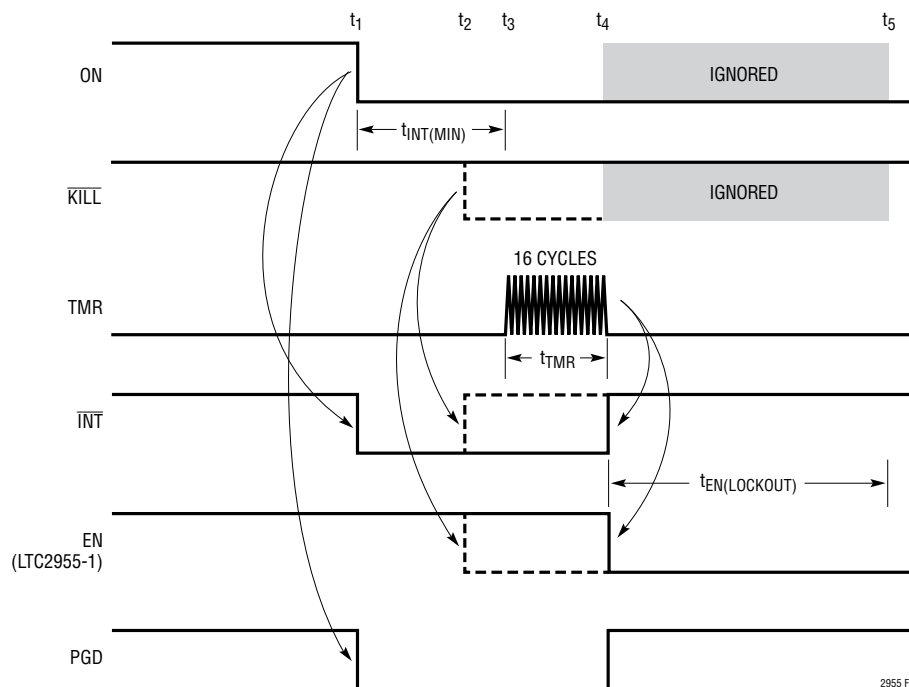

Figure 5. ON Pin Turn-Off Timing (DFN Only, $V_{SEL} > 1.2V$ and the Preceding Turn-On Sequence Was Initiated by the ON Pin Rising Edge)
Figure 5 shows the turn-off sequence of the LTC2955-1 initiated by the ON pin. The timing sequence is slightly different from that by the pushbutton as there is no debounce time ($t_{DB(OFF)}$) before the \overline{INT} pin pulls low. The ON pin falling edge can start the turn-off sequence only if the following two conditions are met: (1) The preceding turn-on sequence was initiated by the ON pin rising edge, and (2) The SEL pin must be tied high ($>0.8V$). For TS8 package, the ON pin falling edge is ignored.
In Figure 5, a high to low transition at ON (t_1) starts the turn-off sequence. The interrupt output (\overline{INT}) is asserted immediately when the ON pin goes low. Unlike the \overline{PB} pin turn-off sequence, there is no 32ms debounce time ($t_{DB(FF)}$) for the ON pin going low. This allows the system to initiate a shutdown as soon as the monitored supply is removed and allows the μP the maximum amount of time
to perform power-down functions. The \overline{INT} pin will stay low for at least 32ms ($t_{INT(MIN)}$). When the μP receives this interrupt signal, it should start to perform its power-down functions and assert the \overline{KILL} input low (t_2) once it is done. The LTC2955-1 will then release the EN and \overline{INT} outputs, thus turning off the system power, as shown with dotted lines in Figure 5.
If the μP fails to respond (\overline{KILL} pin remains high, as shown with solid line in Figure 5) and the ON pin remains low after \overline{INT} goes low, the external timer will start counting for 16 cycles (t_{TMR} , t_3 to t_4). If the ON pin remains low at the end of the 16 cycles (t_4), the LTC2955-1 will force the EN pin low and the \overline{INT} pin high. See Applications Information for adjusting t_{TMR} .
The LTC2955 allows the user to force the system power to turn off if the μP fails to respond during fault conditions. As shown by the solid lines in Figure 3 and Figure 5, when the μP fails to bring the $\overline{\text{KILL}}$ pin low after the interrupt signal is asserted, the user can force a turn-off by holding down the pushbutton. The length of time that $\overline{\text{PB}}$ must be held low is given by a fixed 64ms delay ($t_{\text{DB(OFF)}} + t_{\text{INT(MIN)}}$) plus an adjustable power-down timer delay (t_{TMR}). The adjustable delay is set by placing an optional external capacitor on the TMR pin. Use the following equation to calculate the capacitance for the desired delay. C_{TMR} is the external capacitor at the TMR pin: